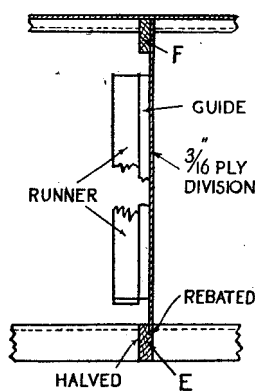

FIG. 7. DIVISION SECTION
-FIG. 7.-
but if this is not procurable the doors can be framed. The stiles and rails are stub-tenoned together as shown in Fig. 7. After the doors are put together they are ploughed at the top and bottom in order that they may slide on the guides *n*, Figs. 2 and 3. It will be found necessary to provide a strip *o* so that sufficient width is available for the fixing of the top guide.
The division between the rest of drawers and the cupboard is shown in Fig. 7. In order to hide the edge of the plywood partition from the front, the